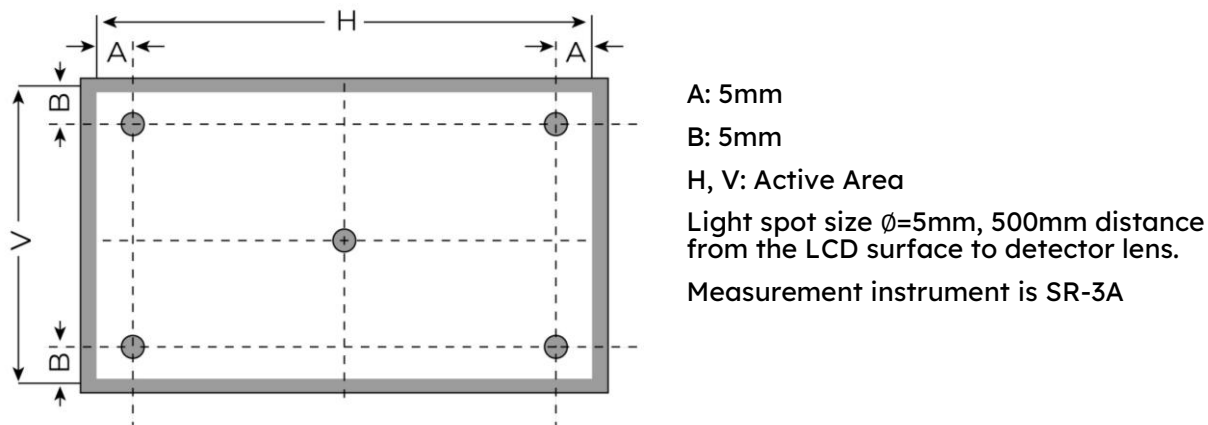

Figure 3. Measuring method for Contrast ratio, surface luminance, Luminance uniformity, CIE (x, y) chromaticity
| Contrast Ratio             | Cr       |                                                | 600   | 800   | -     | ---               | FIG 3. | 1, 7 |
| CIE (x, y)Chromaticity | Rx       | $\theta=0^\circ$$\phi=0^\circ$Ta=25 °C | 0.581 | 0.611 | 0.641 | -                 | FIG 3. | 5,7  |
| Uniformity                 | U        |                                                | 70    | 75    | -     | %                 | Fig 3. |      |
**Note 6.** For TFT module, viewing angle is the angle at which the contrast ratio is greater 10. The angles are determined for the horizontal or x axis and the vertical or y axis with respect to the z axis which is normal to LCD surface. For more information see Figure 3.